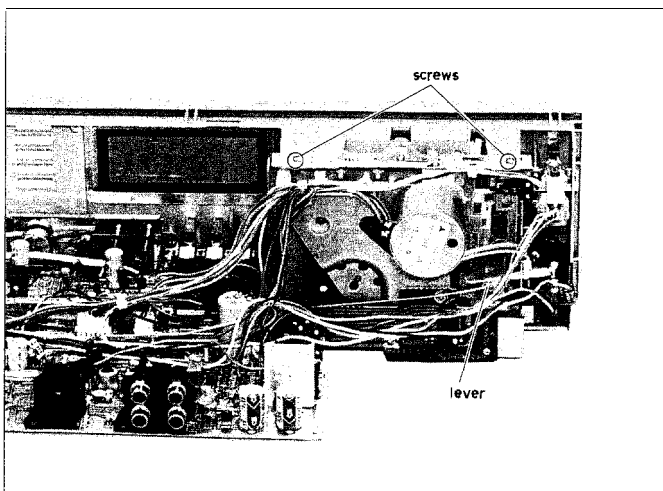

Figure 6-2
1. Remove the spring which is between the record/playback selector switch (SW1) and the record/playback selector switch interlocking lever. (Refer to Figure 6-2.)
2. Remove the two (2) screws from the mechanism block. (Refer to Figure 6-2.)